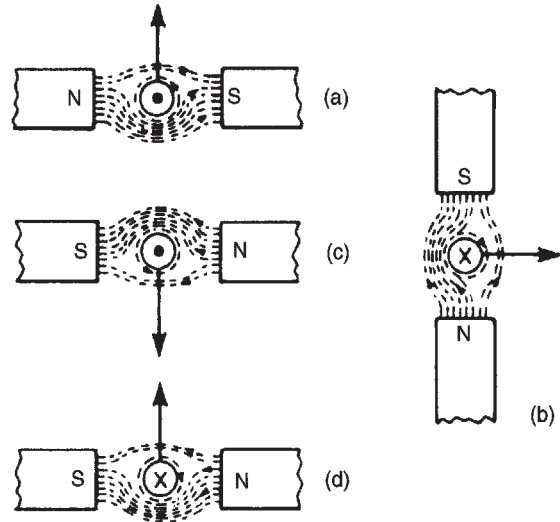

Figure 10.16
- (a) The direction of the main magnetic field is from north to south, i.e. left to right. The current is flowing towards the viewer, and using the screw rule, the direction of the field is anticlockwise. Hence either by Fleming's left-hand rule, or by sketching the interacting magnetic field as shown in Fig. 10.16(a), the direction of the force on the conductor is seen to be upward.
- (b) Using a similar method to part (a) it is seen that the force on the conductor is to the right – see Fig. 10.16(b).
- (c) Using Fleming's left-hand rule, or by sketching as in Fig. 10.16(c), it is seen that the current is towards the viewer, i.e. out of the paper.
- (d) Similar to part (c), the polarity of the magnetic system is as shown in Fig. 10.16(d).